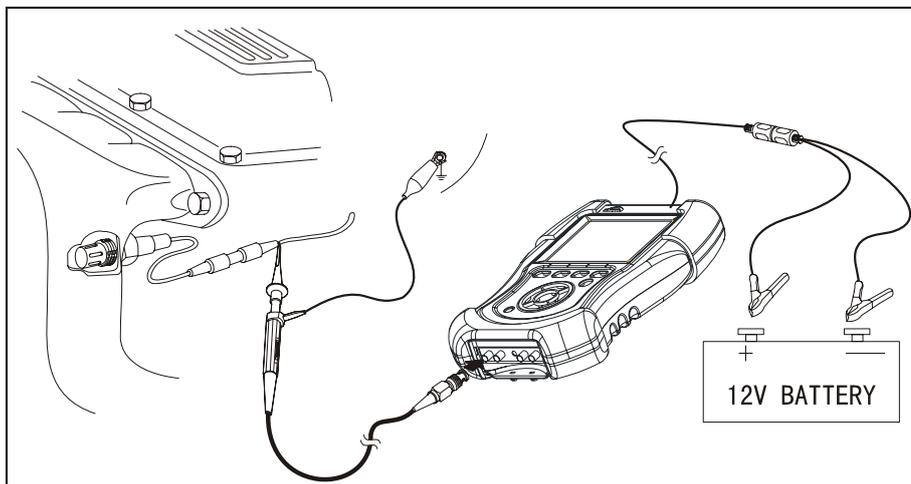

Fig. 3-3
When connecting KT600 to extension line for power supply, choose battery or cigar igniter as power supply according to the battery position of vehicle mode tested. All connecting diagrams in this users manual take power supply by battery as example. If choosing cigar igniter connector, confirm that cigar igniter has 12V battery voltage first. Connect test probe to Channel 1 (CH1 port), and then connect the small alligator clip on test probe to the negative of battery or grounding, pierce test probe into the trigger signal line of oxygen sensor. Connecting diagram is shown as Fig.3-3.
1. Connect equipment according to Fig.3-3, switch on power supply switch of KT600;